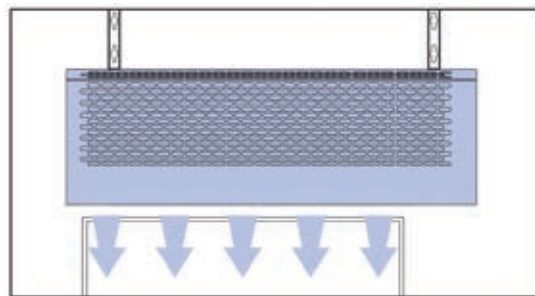

Figure 2
- To ensure these work correctly, the curtain should overlap approximately 100 mm each side of the doorway (see figure 2)